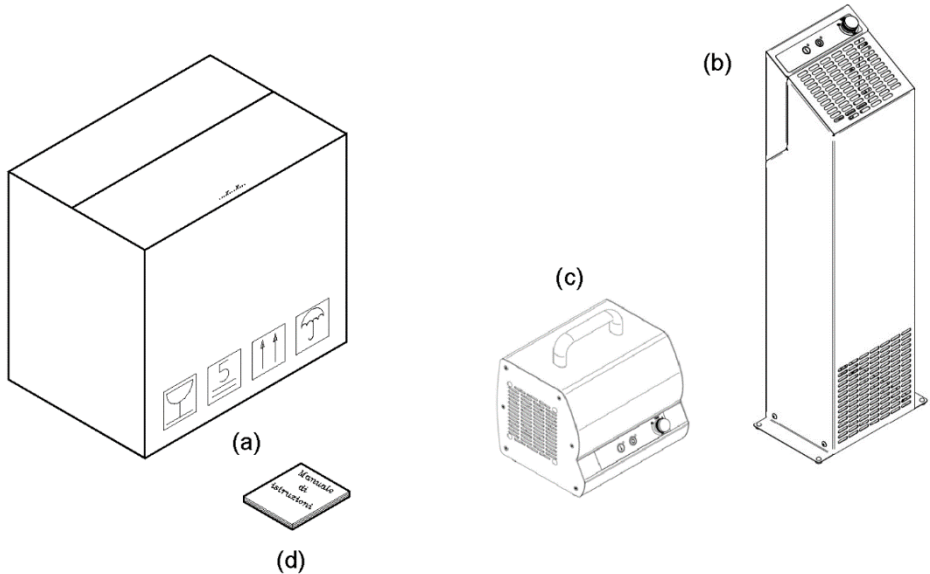

Fig. 4
3.1 - Shipping (See Fig. 4(c) and (d))
- robust external cardboard box (Ref. to Fig. 4) and cardboard and polystyrene or polyurethane foam internal supports;
- the machine (Ref. b or Ref. c Fig. 4);
- this manual (Ref. d Fig. 4).